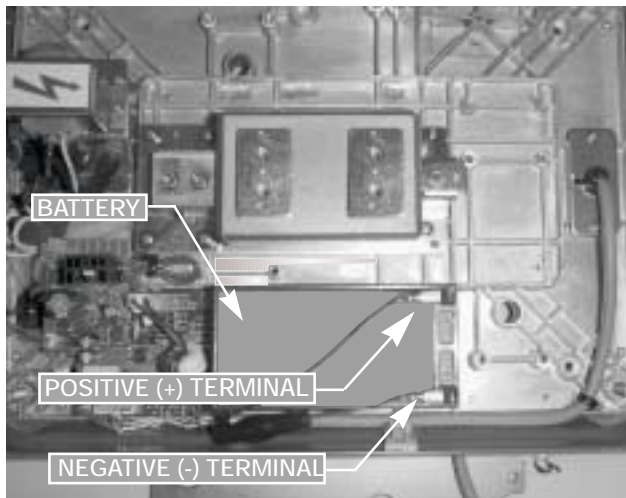

Figure 2-8. Battery Installation
- Disconnect black (-) and red (+) electrical leads from battery (see Figure 2-8). Remove existing DC battery pack. Attach red lead to positive (+) side of battery.